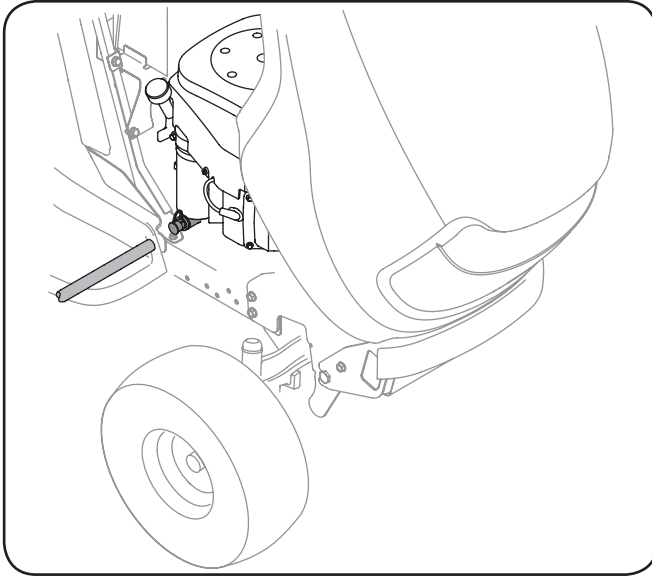

Figure 6-1
3. Pop open the protective cap on the end of the oil drain valve to expose the drain port. See Figure 6-1.